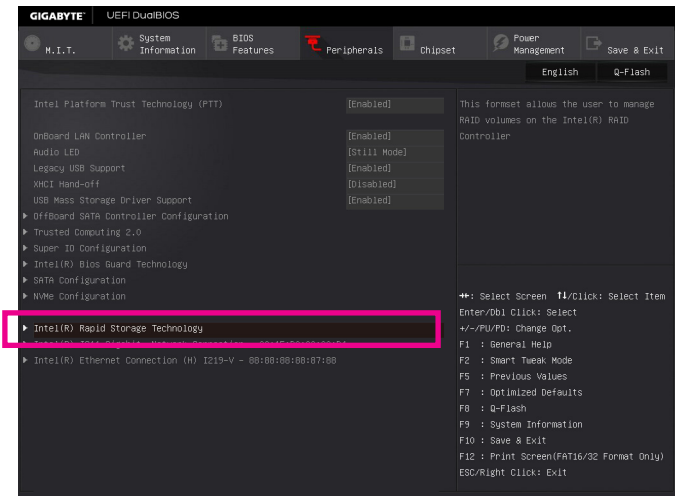

Figure 3
After the system reboot, enter BIOS Setup again. Then enter the **Peripherals\Intel(R) Rapid Storage Technology** sub-menu (Figure 3).